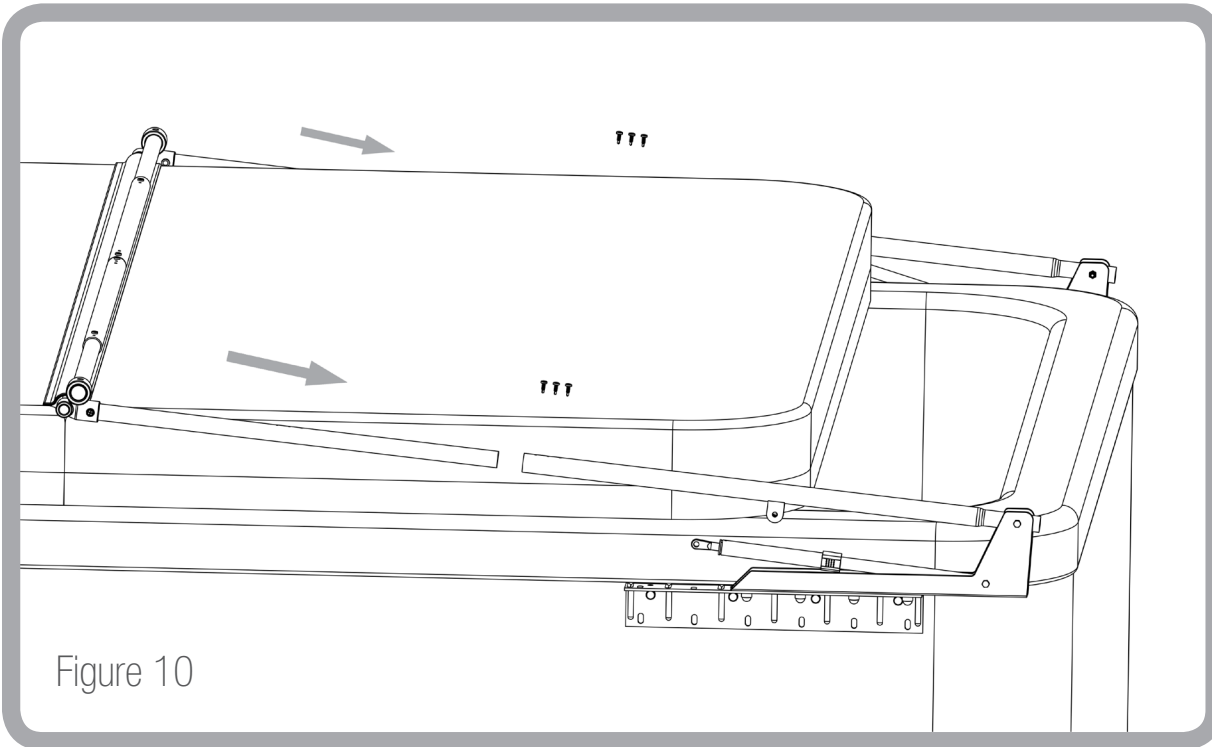

Figure 10
- Slide the Extension Arms (prDD) into the Pivot Arms (prCC), making sure to center the spa cover over the spa. See **Figure 10**.